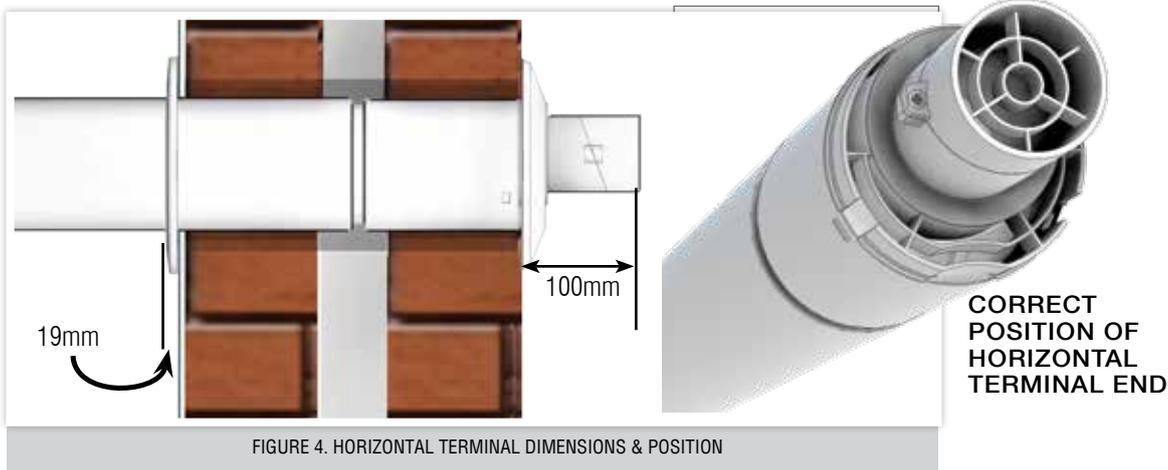

FIGURE 5. TERMINAL POSITIONS
9.6.2 Both the extended horizontal and vertical terminals must be positioned on the outside of the building and the free passage of air must be available at all times. It is not recommended to position the terminal close to projections especially under a balcony or near to a drainpipe. See Figure 5.